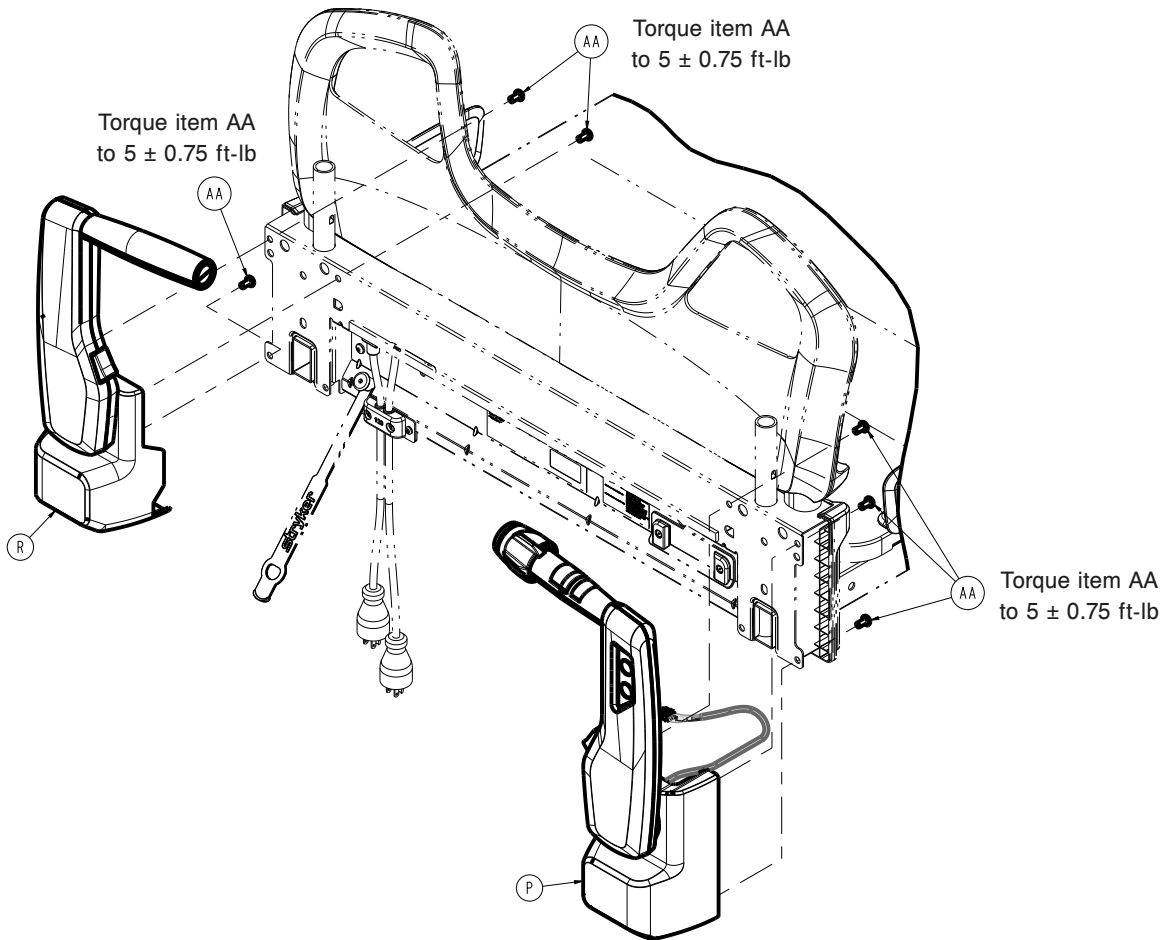

Figure 73 – Removing the Zoom handle assembly
11. Using a T25 Torx driver, remove the three screws (AA) that secure the **Zoom** drive handle assembly (P) to the head end litter weldment and remove the **Zoom** drive handle assembly (P) (Figure 73). Save the screws.
8. Using a T25 Torx driver, remove the three screws (AA) that secure the **Zoom** push handle assembly (R) to the head end litter weldment and remove the **Zoom** push handle assembly (R) (Figure 73). Save the screws.